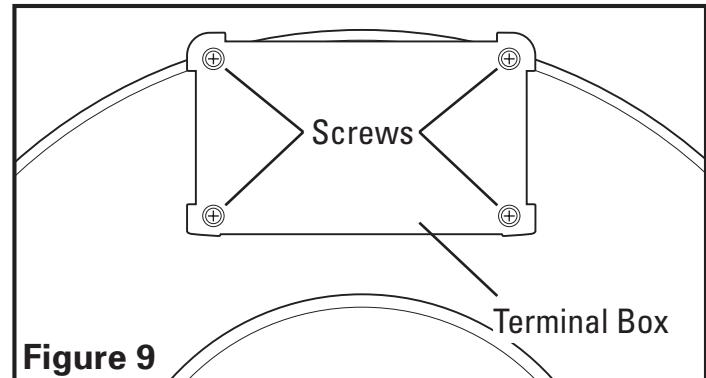

Figure 9
1. Remove the screws securing the terminal box cover plate located on the side of the motor (**Figure 9**).